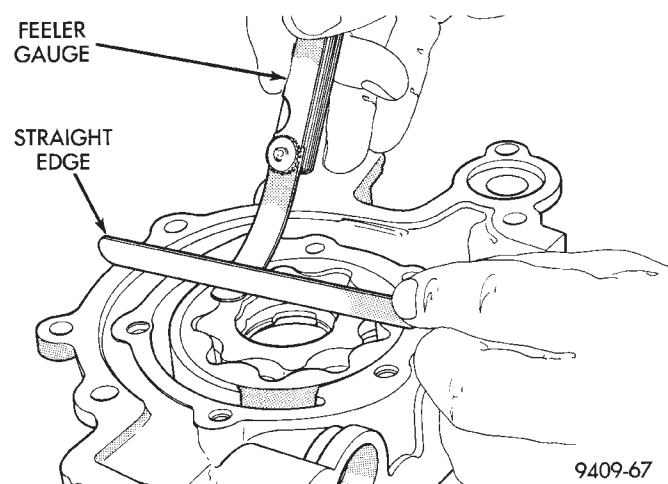

Fig. 100 Measuring Clearance Over Rotors
(7) Place a straightedge across the face of the pump housing, between bolt holes. If a feeler gauge of .102 mm (.004 inch) or more can be inserted between rotors and the straightedge, replace pump assembly (Fig. 100). **ONLY** if rotors are in specs.
(8) Inspect oil pressure relief valve plunger for scoring and free operation in its bore. Small marks may be removed with 400-grit wet or dry sandpaper.
(9) The relief valve spring has a free length of approximately 60.7 mm (2.39 inches) it should test between 18 and 19 pounds when compressed to 40.5 mm (1.60 inches). Replace spring that fails to meet specifications.